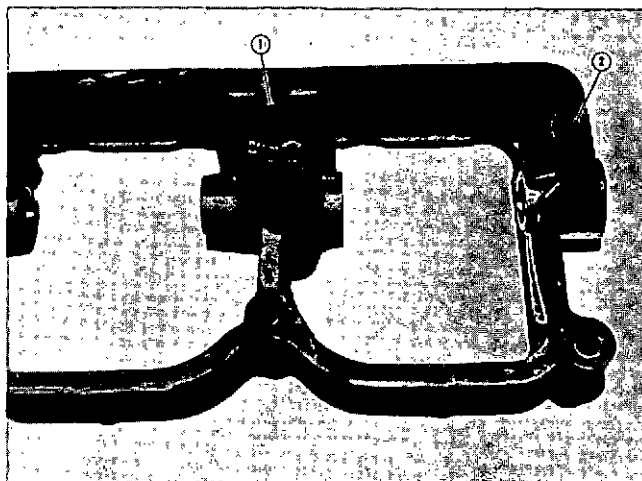

Fig. 3-1-6, V40311. Breather vent hole (bottom view)
3. Check breather vent hole (1, Fig. 3-1-6) and rocker lever oil drilling (2) to make sure they are free of dirt or other deposits.
1. Rocker lever assembly is lubricated through oil holes in shaft and rocker lever housing which indexes with oil passage in cylinder head and block. See (2, Fig 3-1-6).